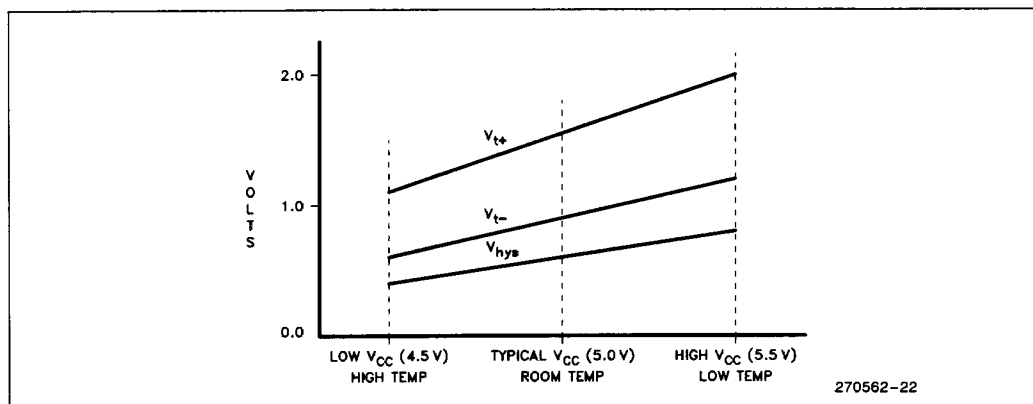

Figure 5. Port 1 and 3 Hysteresis
- VT_{+min} and VT_{-max} cannot occur together in the same part as hysteresis is guaranteed to be 400 mV Minimum. See Figure 5.